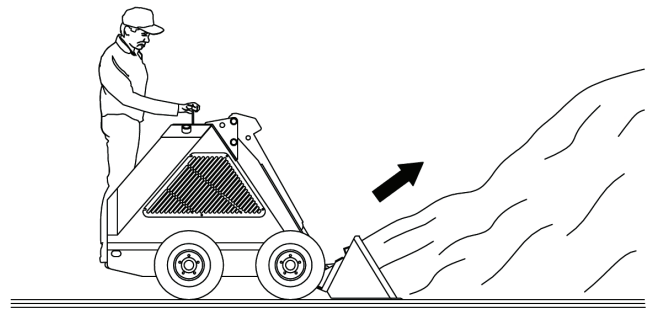

Figure 13
2. As soon as the bucket is full, tilt the bucket back and back away from the pile, as shown in Figure 13 and 14.